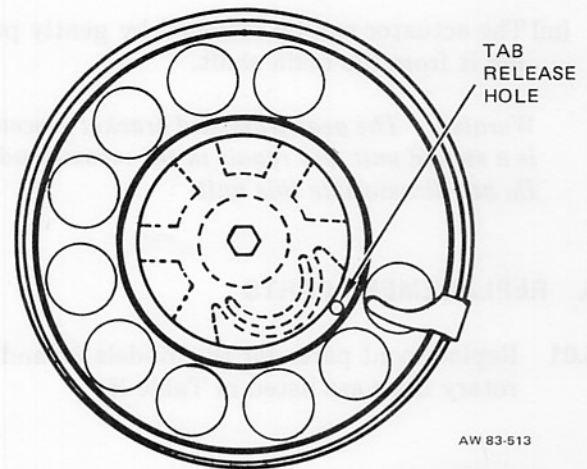

Figure 3: Location of Tab Release Hole
- (b) Insert the straightened end of a paper clip or similar tool into the hole that is now approximately $\frac{1}{4}$ inch to the left of the tip of the finger stop. (See Figure 3.)